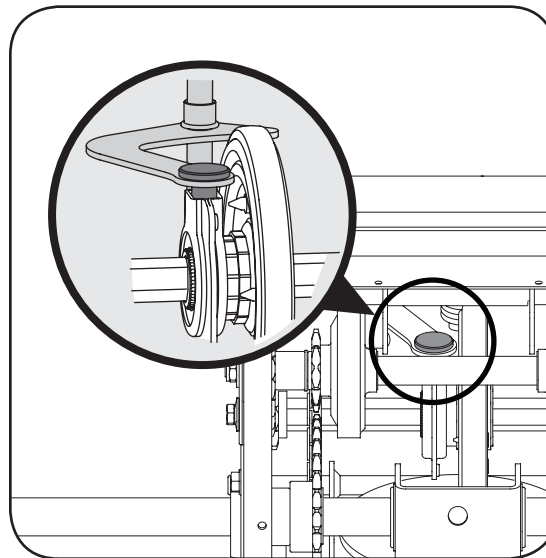

Figure 6-16
- Insert the pin from the shift arm assembly into the friction wheel assembly and hold assembly in position. Refer to Figure 6-16.